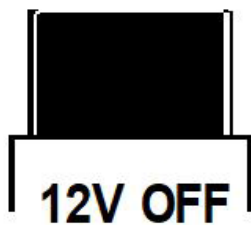

Fig. 12
9. Connect the product to the power supply and check that the red button is in the fully down position (fig.12).